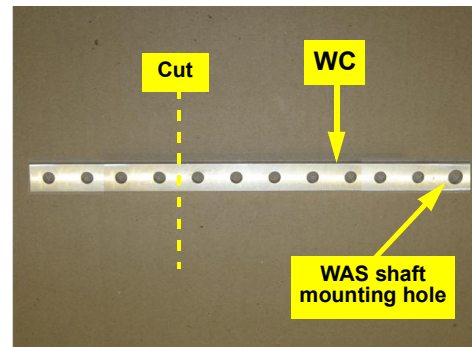

Figure 1b: WAS arm preparation
- Cut four holes off the WAS arm **WC** at the opposite end from the WAS shaft mounting hole (Figure 1b)